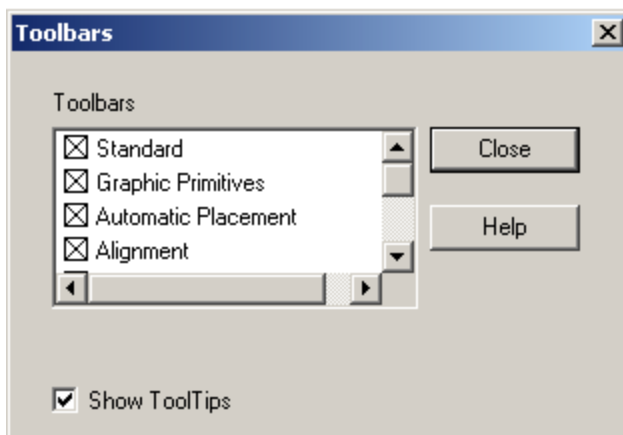

Figure 6-2 Toolbars dialog
1. Select **View > Toolbars**. The Toolbar dialog displays. See Figure 6-2.